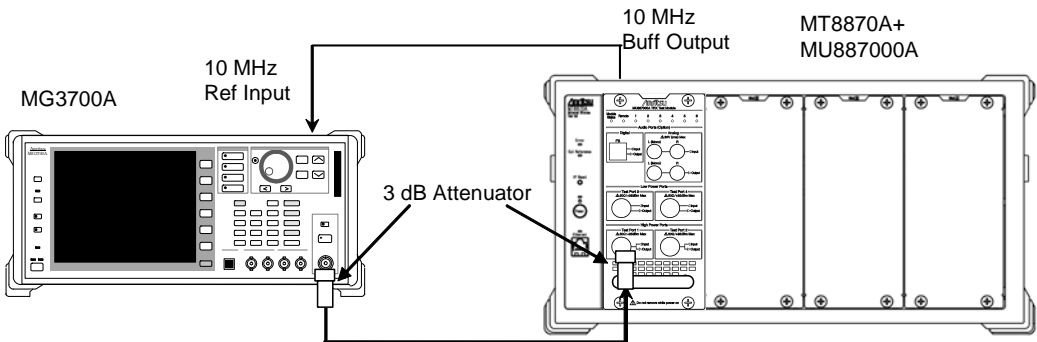

Figure 5.3.2-1 Setup for Measuring Amplitude Measurement Accuracy
1. Setup the instruments as shown in Figure 5.3.2-1.